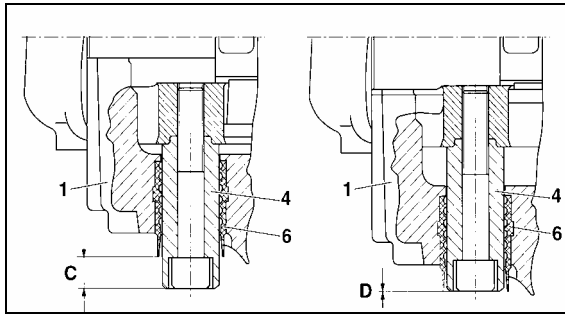

FIGURE 29: BRAKE PAD CHECK
The pad thickness can be seen but would require removal of the tire and rim. An indicator of the pad wear condition is available by inspecting the floating pin location in relation to the rubber bushing as shown in figure 29. When pads are in new thickness condition, the pin will be exposed (C) 19 mm (¾"). When the pads are worn to replacement conditions, the pin will be nearly flush to the bushing (D) or within 1 mm (3/64") of the edge of the rubber bushing.